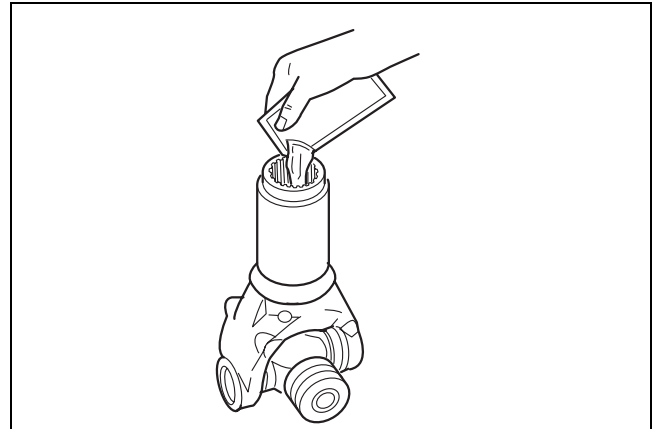

Figure 8.20
2. Use the grease packet supplied with the slip yoke to apply the entire amount of grease into the slip yoke. Figure 8.20.